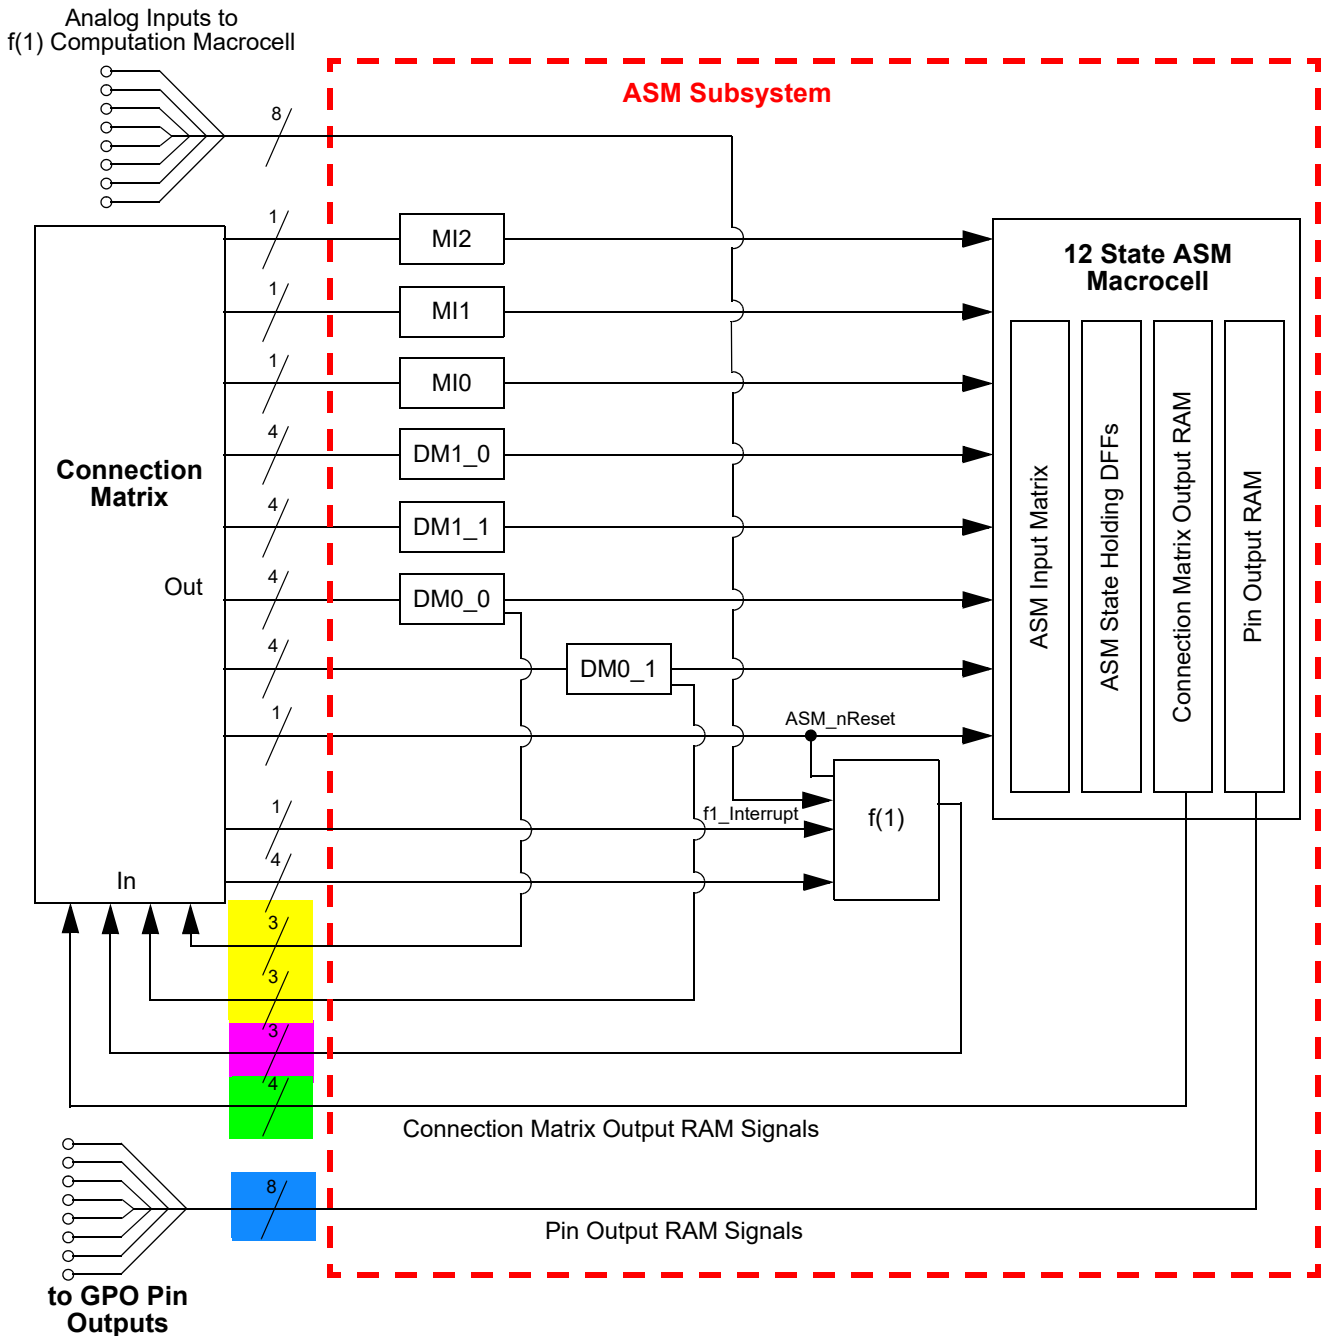

Figure 95: ASM Subsystem Input Signals
The ASM subsystem has a total of 21 output signal lines, as shown in Figure 95.
There are a total of 4 output signals from the ASM macrocell which go to the Connections Matrix inputs and from there can be routed to other internal macrocells or pins. These signals are shown in Figure 95, highlighted in green. The 4 outputs are user defined for each of the possible 12 states. The user selection for the output states is held in the Connection Matrix Output RAM.
There are a total of 8 output signals from the ASM macrocell which go directly to the 8 GPOs. These signals are shown in Figure 95, highlighted in blue. The 8 outputs are user defined for each of the possible 12 states. The user selection for the output states is held in the Pin Output RAM. Each of these GPOs has a single selection bit which defines the GPO input source as either the ASM Output RAM signal or the Connection Matrix signal.
Two of the Dynamic Memory macrocells, DM0_0 and DM0_1, can be used as either a resource for generating input signals for driving state transitions in the ASM macrocell, or to generate signals for use in other parts of the user design. When used to generate signals for purposes other than ASM state transitions, each of these macrocells has three output signals that go to the Connection Matrix, and from there can be routed to other internal macrocells or pins. Each of these macrocells has a total of 3 output signals of this type. These signals are shown in Figure 95, highlighted in yellow.
The f(1) Computation Macrocell has 3 output signals that go to the Connection Matrix, and from there can be routed to other internal macrocells or pins. These signals are shown in Figure 95, highlighted in pink.